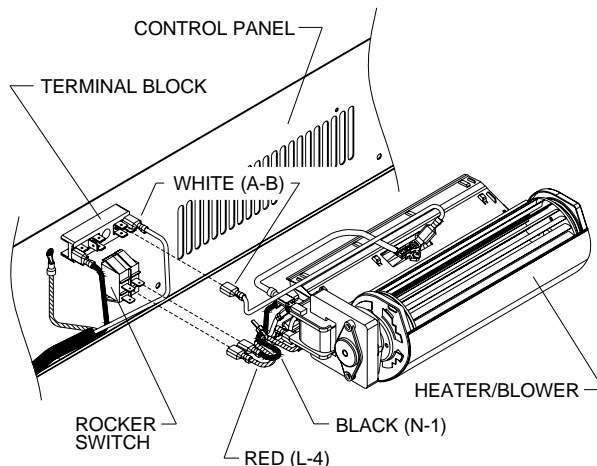

Figure 25 - Connecting Heater Wires
14. Connect **Black** heater wire to terminal marked 'N-1' on the heater power, switch (see **Figure 25**).
15. Connect **Red** heater wire to terminal marked 'L-4' on heater power switch. See partial wiring diagram, **Figure 25** or **26**.